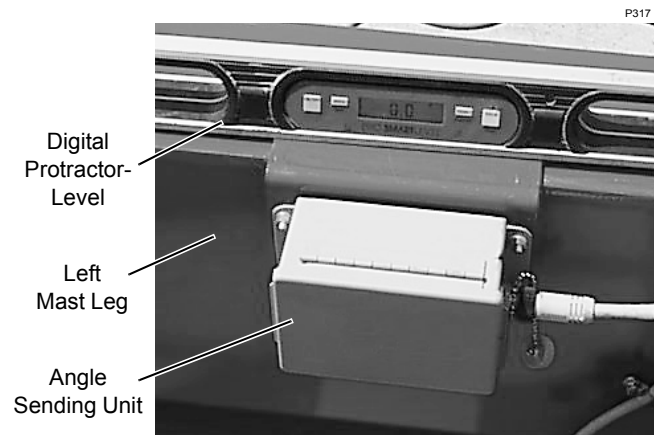
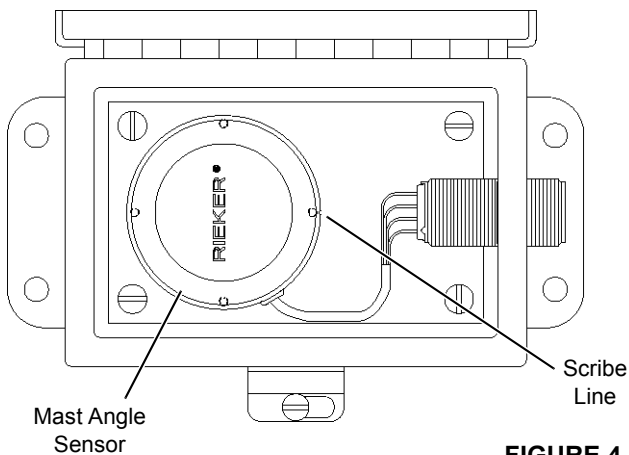

FIGURE 4-6
FIGURE 4-8
See Figure 4-6 for the following.
The mast angle sending unit (Figure 4-6) houses a solid-state sensor (Figure 4-8) that provides an electrical signal to the crane's programmable controller. The programmable controller uses the signal to automatically control the position
3. Place a digital protractor-level on the mast (Figure 4-6) and note the mast angle.